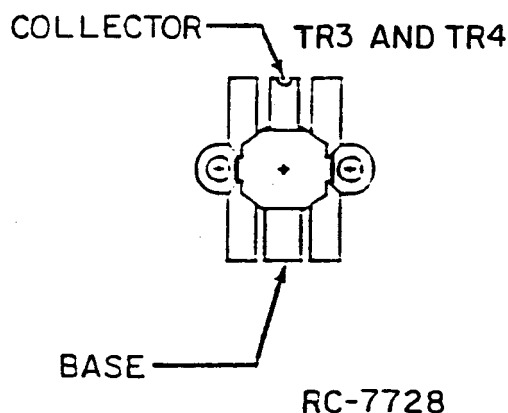

Figure 1- PA Transistor Lead Identification
4. Remove all excess solder from the board, and clean the holes to allow the new transistor to be positioned properly and the capacitors to fit into proper locations. Refer to Figure 1 and trim the new transistor leads (if required) to the lead length of the removed transistor.